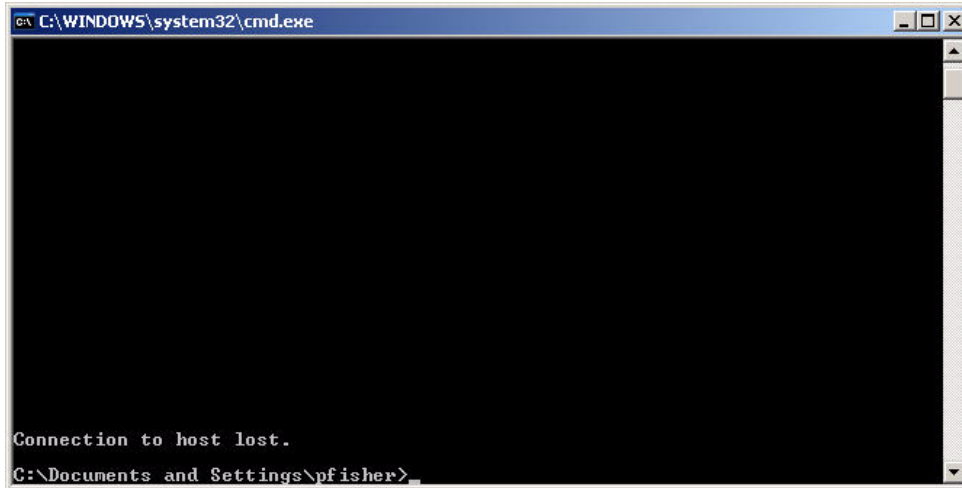

Figure 102: Log out screen
13. Press **CTRL+L** to log out as shown in Figure 102.